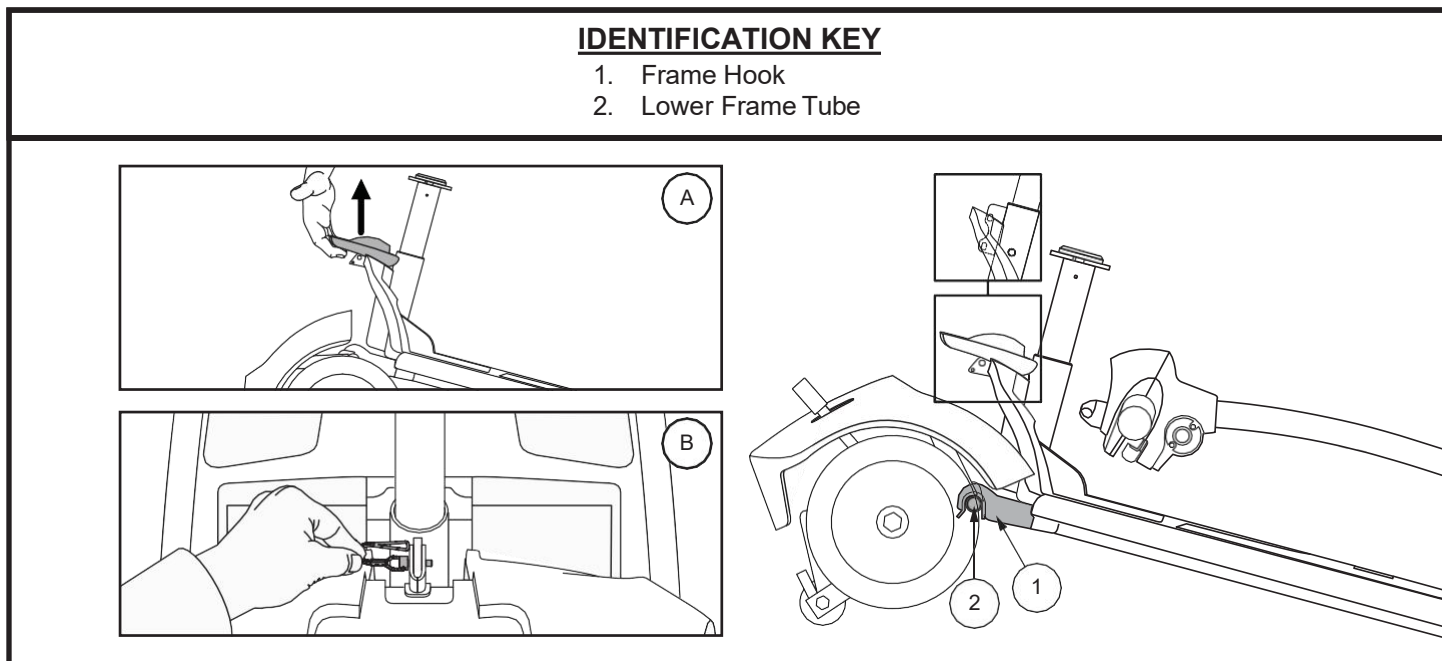

Figure 33. Frame Release Lever (Style A) and Frame Release Lock-up Pin (Style B)
3. Slowly separate the two sections of the Travel Scooter. See figure 33.
NOTE: Before attempting assembly, tilt the rear half of the Travel Scooter slightly back on the anti-tip wheels as shown in figure 33.
1. Use the frame release lever to lift the front section as you align the frame hooks of the front section with the lower frame tube of the rear section. See figure 33.